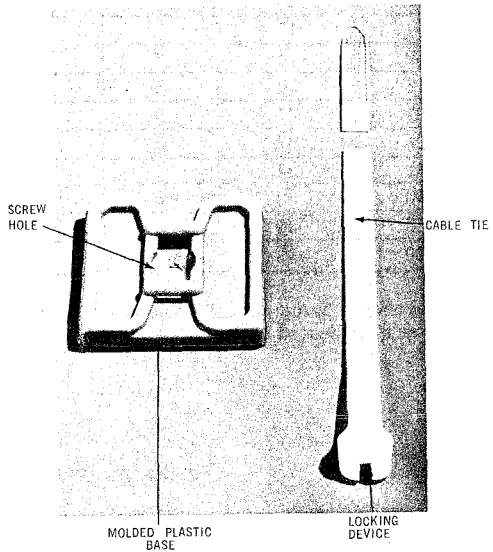

**Fig. 8 – Typical Plastic Anchor**
**3.11 The Plastic Anchor** is intended for use with wood screws when making attachments to masonry, brick or concrete, (see Fig. 8.) See shipping carton for size of anchor, hole and screw.